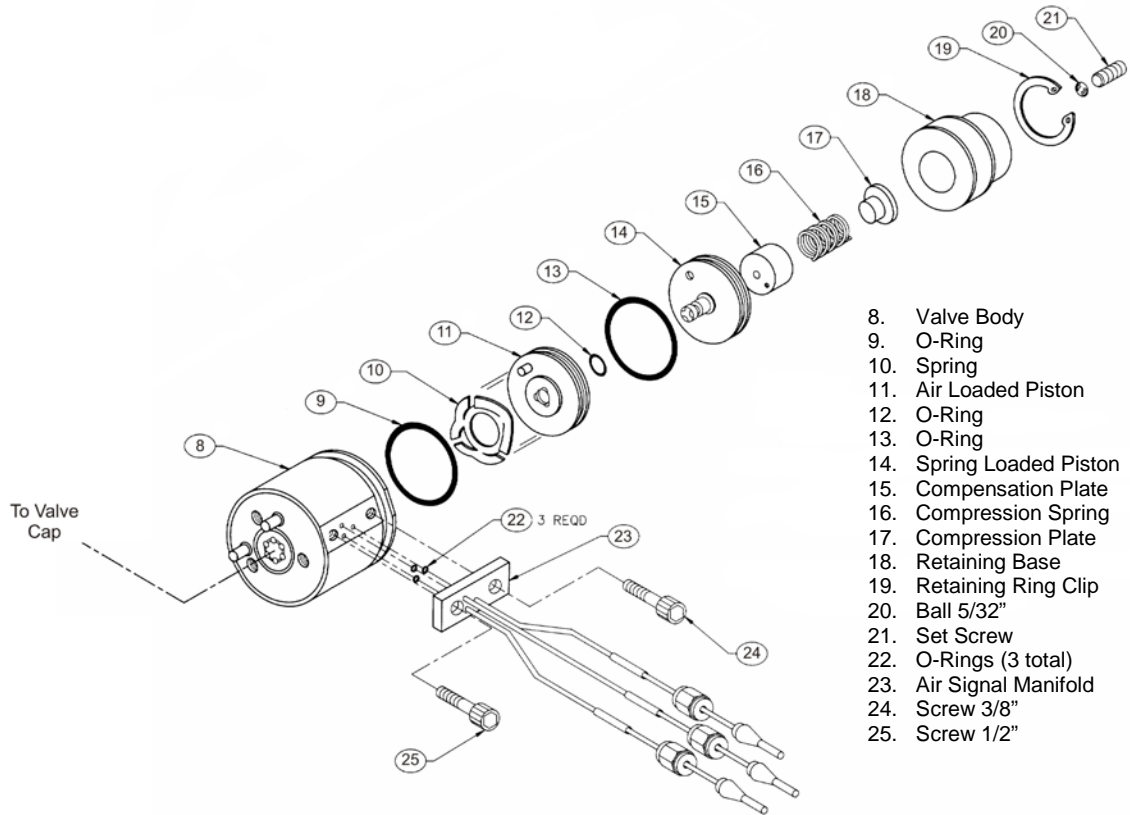

Figure 4-47: Valve Body Exploded View
The following procedures should be followed for performing Maxi-Maintenance on the Model 11 Valve or the Model 11 Low Dead Volume Valve. Maxi-Maintenance procedures include the Mini-Maintenance procedures in addition to the disassembly, inspection and assembly of the valve plunger presented in this section. Refer to Figure 4-47.
4.	Remove air signal manifold (23) by removing the two screws (24&25) that secure it to the valve body (8). After manifold is detached, inspect the three o-rings (22) and replace if necessary. If the o-rings are undamaged, then set them aside (on a clean surface) for installation later.
5.	Use the plier tool supplied with the repair kit to remove the retaining ring clip (19).
6.	From bottom of valve body, remove retaining base (18), compression plate (17), compression spring (16) and compensation plate (15) from bottom of valve body (8). Refer to Figure 4-47.
7.	Use the plier tool supplied with the repair kit to remove spring-loaded piston (14) from valve body (8). Insert the tips of the plier nose into the holes in the underside of the piston and pull slowly.
8.	Remove air-loaded piston (11) from valve body (8)
9.	Using care to catch plungers (7), as presented in step 2, remove any stuck plunger using retaining ring pliers.
36.	Prepare to install the manifold (23) by cleaning the flat surface on the side of the valve body (8) and then installing the three small O-rings (22) into the manifold (23).
37.	Align and install manifold (23) onto valve body (26) with two 8-32 screws (24 and 25). The shorter screw is installed in the top. Attach the manifold so that inlet holes on the manifold align with inlet holes on the valve body. Refer to Figure 4-47.